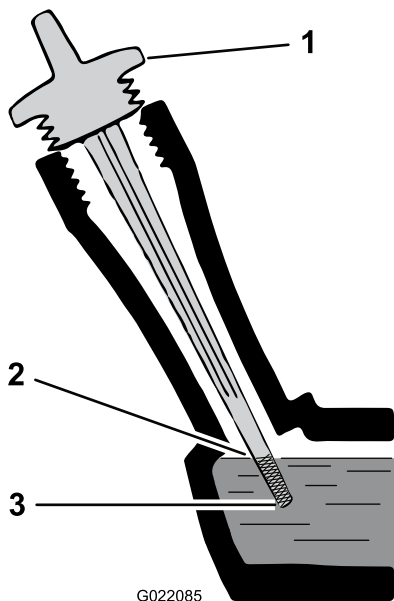

Figure 29
8. **Slowly** pour oil into the oil fill tube, periodically checking the level with the dipstick, until the dipstick indicates that the engine is full (Figure 29). **Do not overfill.**